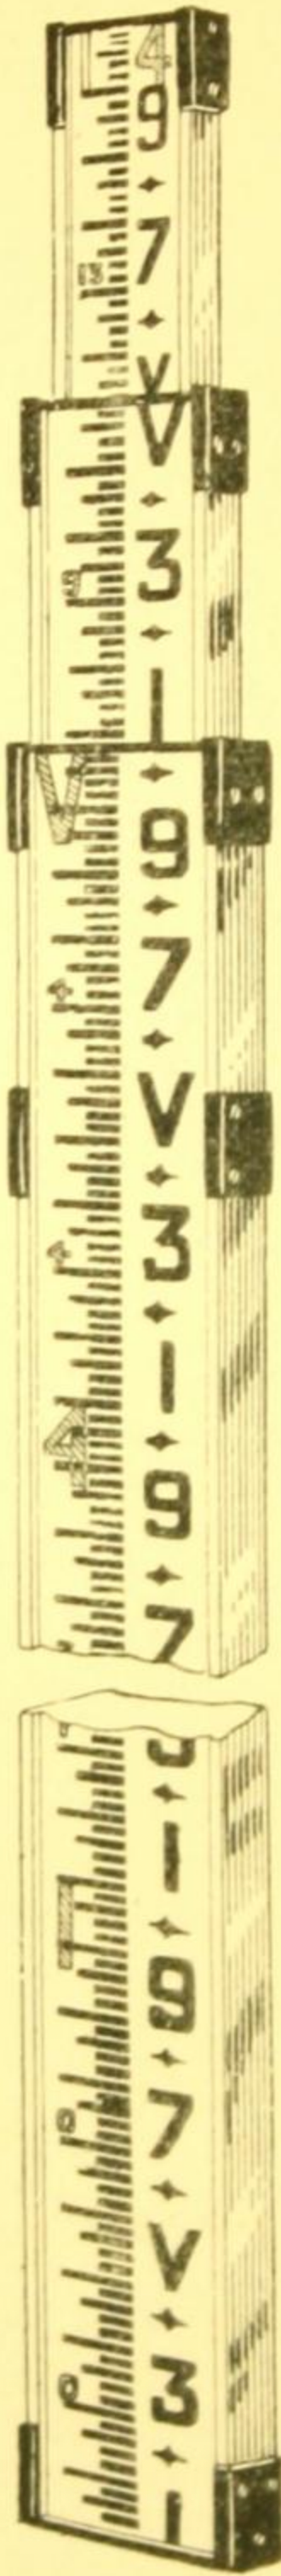
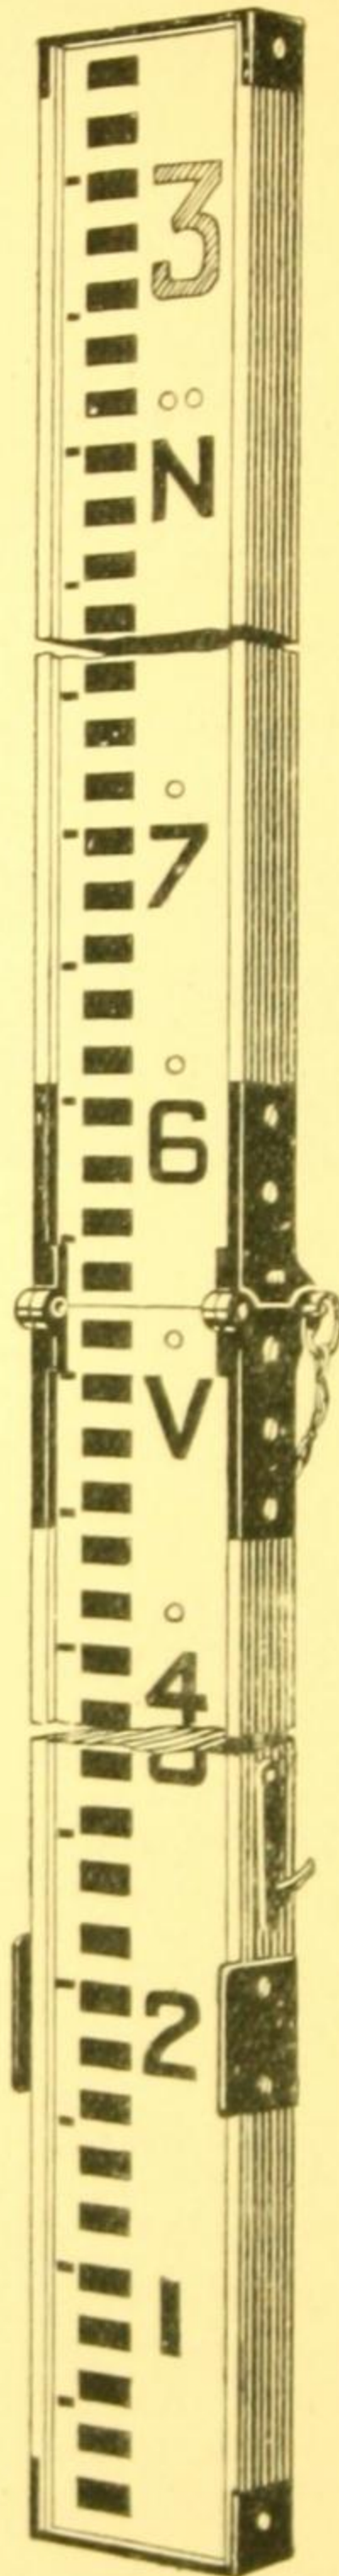

Fig. 39.
Fig. 40.
**The Sopwith Telescopic Staff.**—Scale divided to feet, 1/10ths, 1/20ths and 1/100ths of a foot. Each foot numbered on the left with a large red figure, and a small repeat figure between each foot, and every odd tenth numbered on the right with black figures. The figures representing the odd tenths are the depth of the sub-division they indicate, the top of each figure representing its value, while the intermediate even tenth is read from the bottom of the same figure. This arrangement prevents overcrowding. No. SM 191 is the most popular size Fig. 39
**Metric Telescopic Staff** constructed in the same way as the Sopwith Staff, Fig. 39, but graduated in metres sub-divided to decimetres and centimetres as illustrated on Fig. 40. Metres indicated by large red numerals with repeat dots between each metre, and decimetres indicated by smaller black numerals. No. SM 196 is the most popular size.
Folding Levelling Staves or Stadia Rods made of pine with stout brass binding and caps at extremities, and strong hinge with locking pin. Scale the same width throughout and completely protected when the staff is folded with the graduated faces inwards. Fig. 40.
**Sopwith Folding Staff** with scale  $2\frac{1}{2}$  inches wide as illustrated Fig. 40, but graduated as Fig. 39.
**Metric Folding Staff** with scale 64 mm. wide graduated metres, decimetres and centimetres as illustrated Fig. 40.
SM 207.—**Builders Folding Staff.** A light 10-ft. Staff in three sections with two joints, folding to 3 ft. 6 inches. Scale painted on white ground with Sopwith graduations as on Fig. 39.....